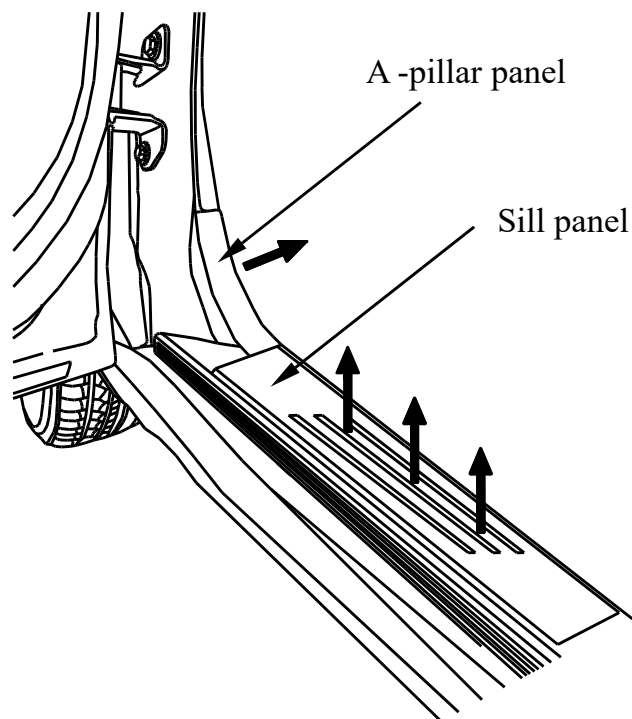

Figure 1
Step5: Connection of signal wire: Pry the sill panel and A-pillar panel on the left above in figure 1. Pull the white signal wire , brown signal wire and power board switch wire into the vehicle through the rubber grommet on the left side of the vehicle in figure 2 . Then the white signal wire extends to the right side of the vehicle under the carpet, and stick the power board switch to the left side under the steering wheel in figure 3.